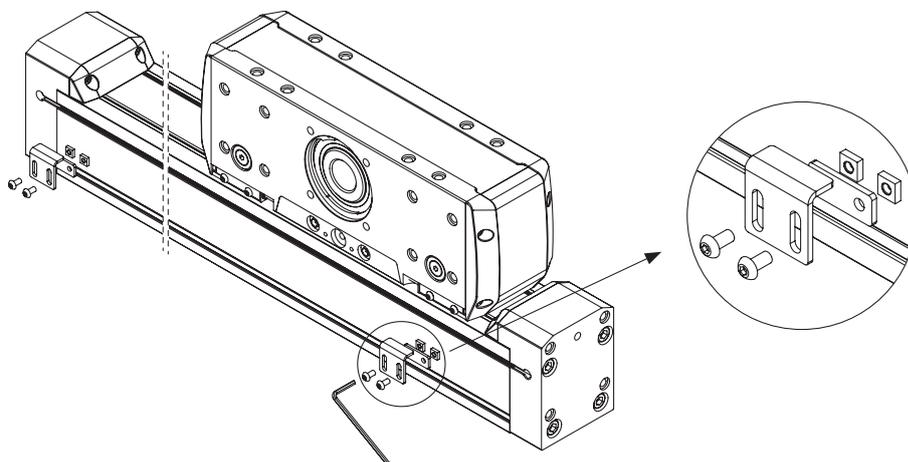

Fig. 6.44 Mounting the damping elements – HC025B and HC040B (with spacer plate)
- ▶ Attach the damping elements with the two M3 bolts (in the case of axis size HC025B, the spacer plate must also be installed between the damping elements and axis, see Fig. 6.44). First leave the two bolts untightened.